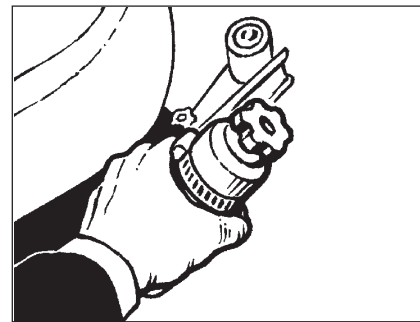

Figure 43
7. Unscrew the drain plug and empty the recovery tank (see figure 43).